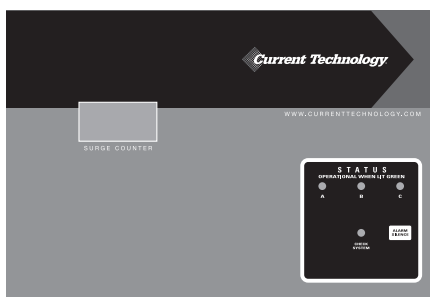

Figure 11
► If your SL3 has the M2 Option (see Figure 11):